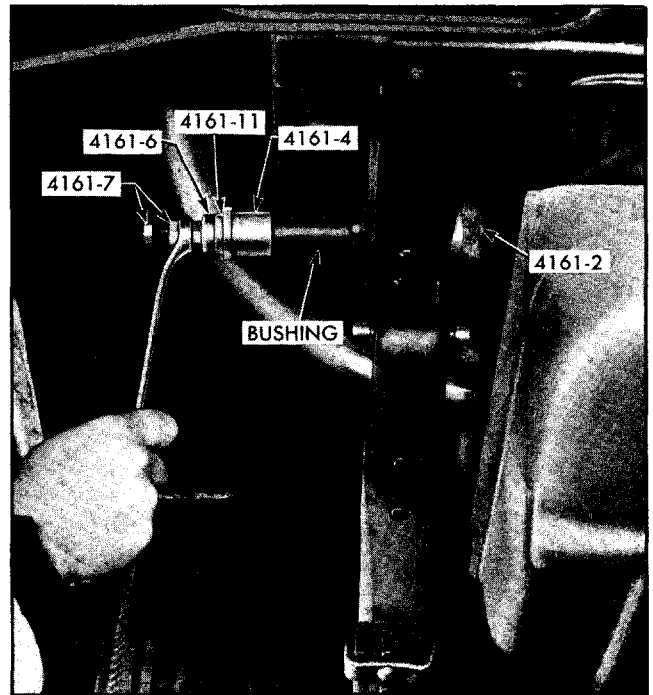

Fig. 4-59 Bushing Replacer Tool J-4161-A Positioned For Installation of Rear Bushing
c. Center bushing on one side and adapter 4161-2 on opposite side of hole in spring hanger; turn hex nut of 4161-7 (Fig. 4-59) until bushing is forced into place so bushing pin projects equally on each side of frame hanger.